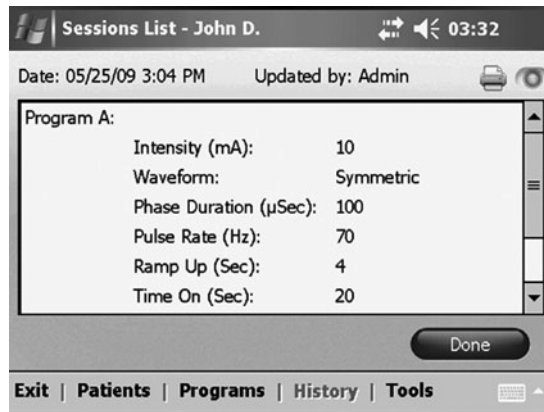

Figure 7-10. Session detail.
3. The session detail will open. See Figure 7-10.